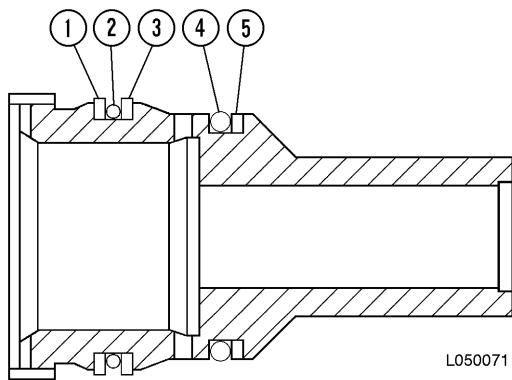

FIGURE 6-14. O-RING LOCATION ON PISTON SLEEVE
30. Install backup ring (1, Figure 6-14), O-ring (2) and back-up ring (3) in rearmost groove on the piston sleeve. Install O-ring (4) and backup ring (5) in the remaining groove.
42. Clean end cap (4) and ensure the seal groove is clean and free of any flaws.
43. Lightly lubricate new seal (5) with clean hydraulic oil and install the seal onto the end cap. Refer to Figure 6-14 for the correct orientation of the seal. **DO NOT** use any tools to install the seal. Damage to the seal may occur and oil leakage may result.